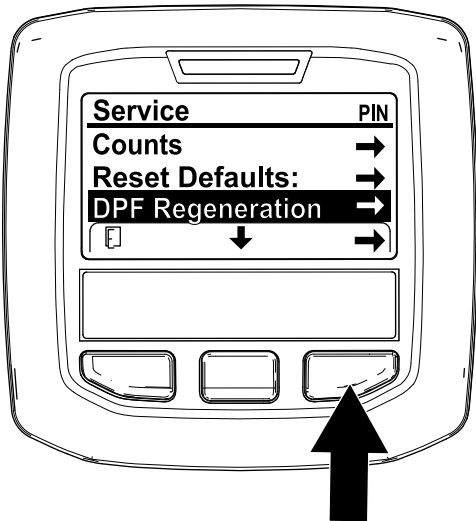

Figure 37
- 1. Access the Service menu, press the center button to scroll down to the DPF REGENERATION option (Figure 37).
- 2. Press the right button to select the DPF Regeneration entry (Figure 37).